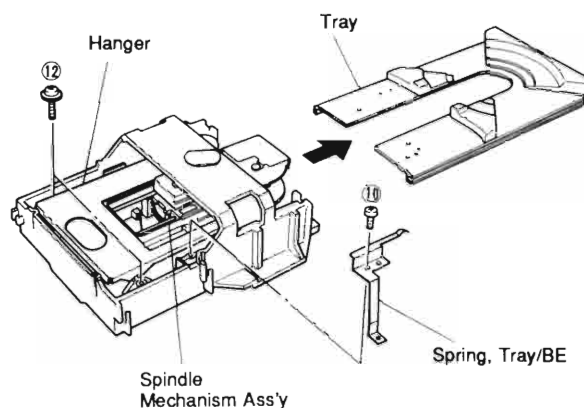

Fig. 3
- Remove a screw (⑩) and then remove the spring tray/BE in Fig. 3.
- Remove 2 screws (⑫) and then remove the spindle mechanism assembly (with a hanger) in Fig. 3.